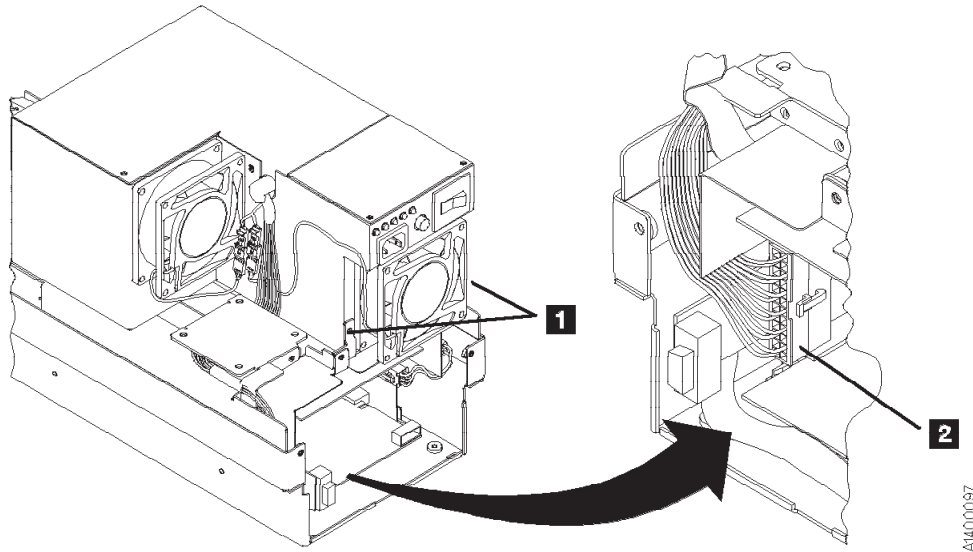

Figure 10-45. Power Supply (Former Level)
3. Remove the Library Manager (LM) connector, if present and the SCSI or fibre channel cable connector or connectors from the back of the drive.
5. See Figure 10-45 on page 10-63. Disconnect the power supply connector **2**.